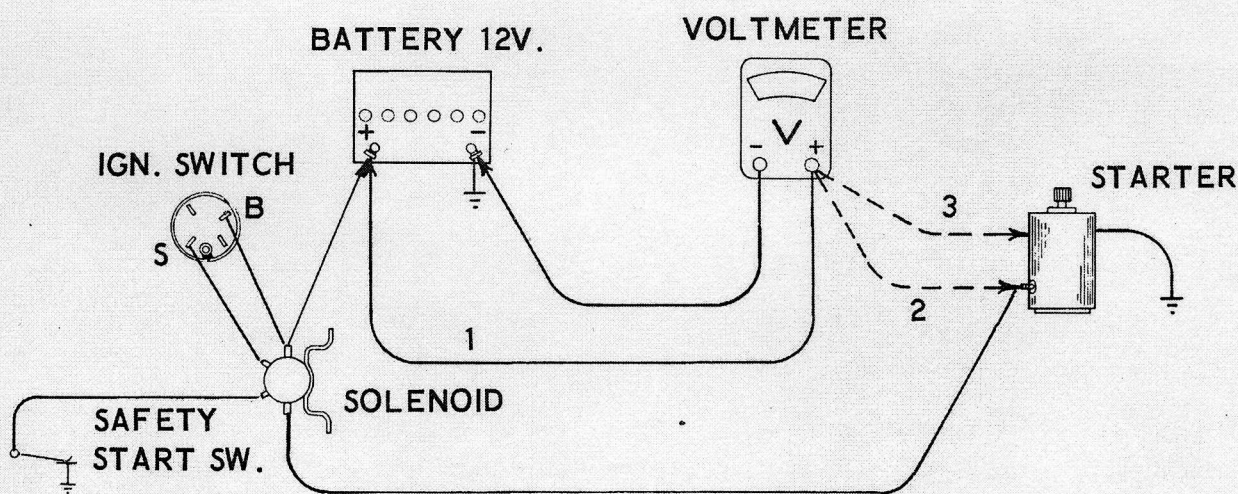

Figure 4
1. AVAILABLE VOLTAGE - BATTERY CONDITION: Connect a voltmeter between the positive and negative terminals of the battery. #1 - Figure 4: Crank the engine for 30 seconds and record the voltage. Should be 9.5
2. INSULATED CIRCUIT RESISTANCE TEST: Move red voltmeter clip to starter Terminal #2 - Figure 4. Crank engine and record voltage. If more than .5 volt less than in Step #1 above, check cables, connections or solenoid.
3. GROUND CIRCUIT RESISTANCE TEST: Move red voltmeter clip to ground on starter housing, #3 - Figure 4. Crank engine, if more than .2 volt appears on meter, check starter frame mounting at starter and at engine block, negative cable and connections at engine and battery negative terminal.